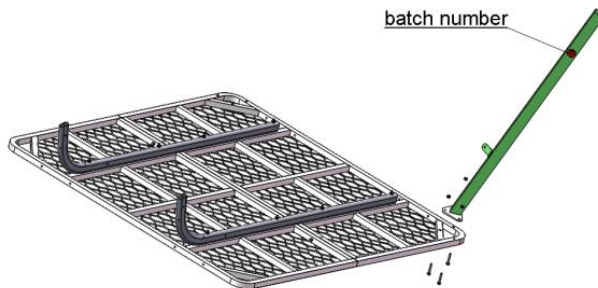

Figure 3
Step 3: Attach the right upper leg (TS305.21) to the platform by using three 1/4"-20 × 1-1/2" bolts (48240B) and three 1/4" lock nuts (48752B). **The right upper leg (TS305.21) has the batch number** . Leave these hand tight for now (**Figure 3**).